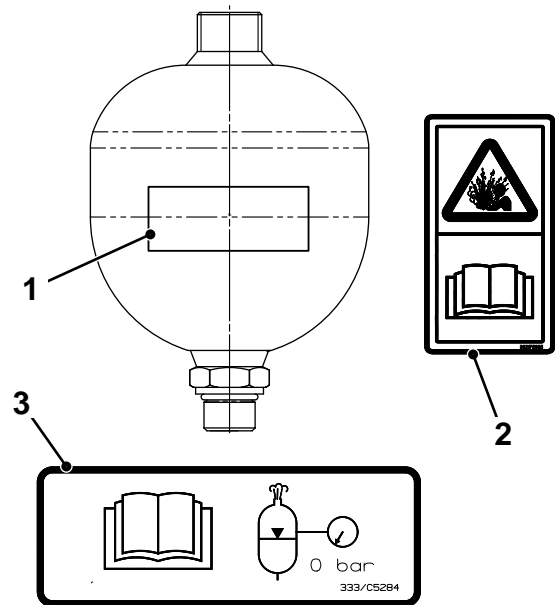

Fig 2.
- 12 ⇒ Fig 2. (□ 1-21) Remove the discharged state label **3** and attach the pressurised warning label **2** at position **1** on the accumulator.